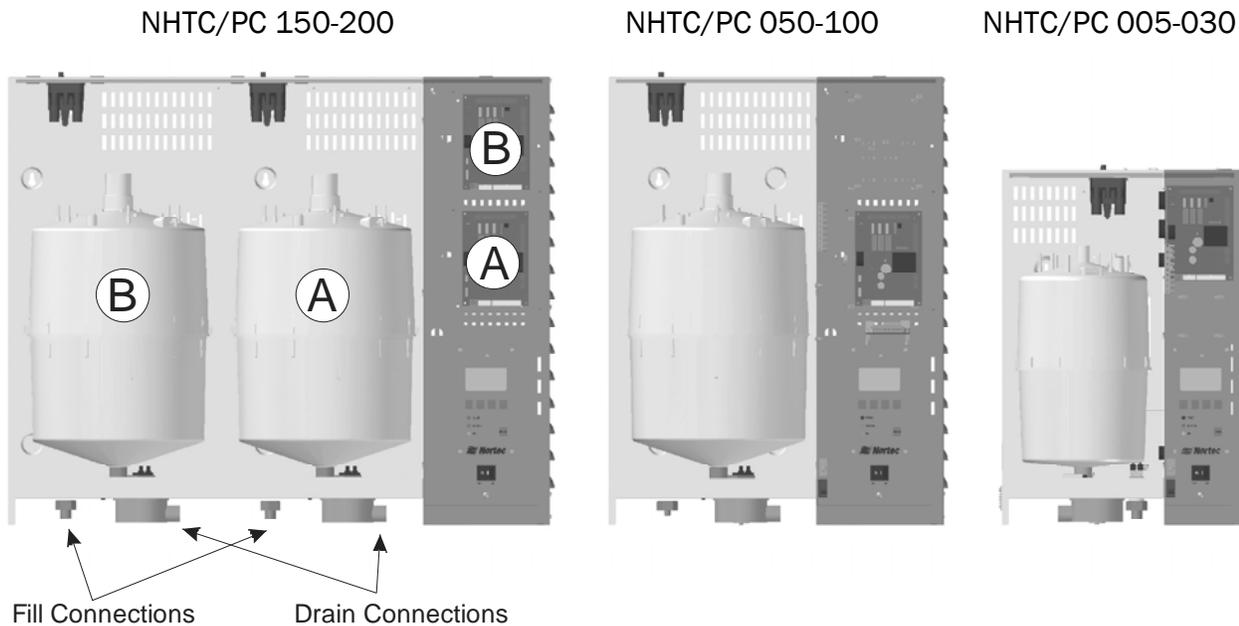

Figure 3: NHTC/PC Models
- In addition to having two cylinders double units also have two driver boards (designated A and B). One driver board controls each cylinder. (see Figure 3: NHTC/PC Models).